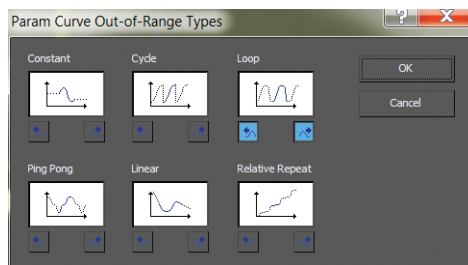

FIGURE 5.6 Choosing to loop your animation
Doing so opens the Parameter Curve Out-of-Range Types dialog box, shown in Figure 5.6.
3. Select Loop in this dialog box by clicking its thumbnail. The two little boxes with arrows beneath it will highlight (see Figure 5.6). Click OK.